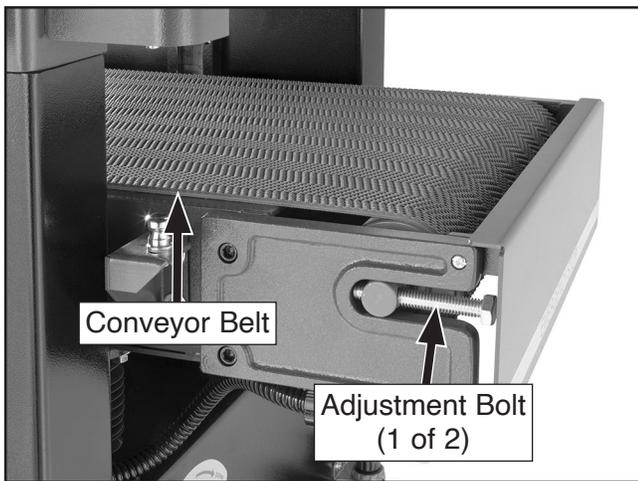

Figure 102. Location of conveyor belt adjustment bolts.
The conveyor belt tension is adjusted by rotating two adjustment bolts, located on each side of the conveyor table (see **Figure 102**).
2. Rotate both left and right adjustment bolts (see **Figure 102**) equally to adjust conveyor belt tension. When tensioned properly, you should not be able to lift conveyor belt off of table or slide it back and forth.
The conveyor belt is tracking properly when it stays centered on its rollers during operation and does not wander from side to side. The tracking is adjusted by rotating either the left or right conveyor or belt tension adjustment bolt (see **Figure 102**), depending on the needs of the adjustment.